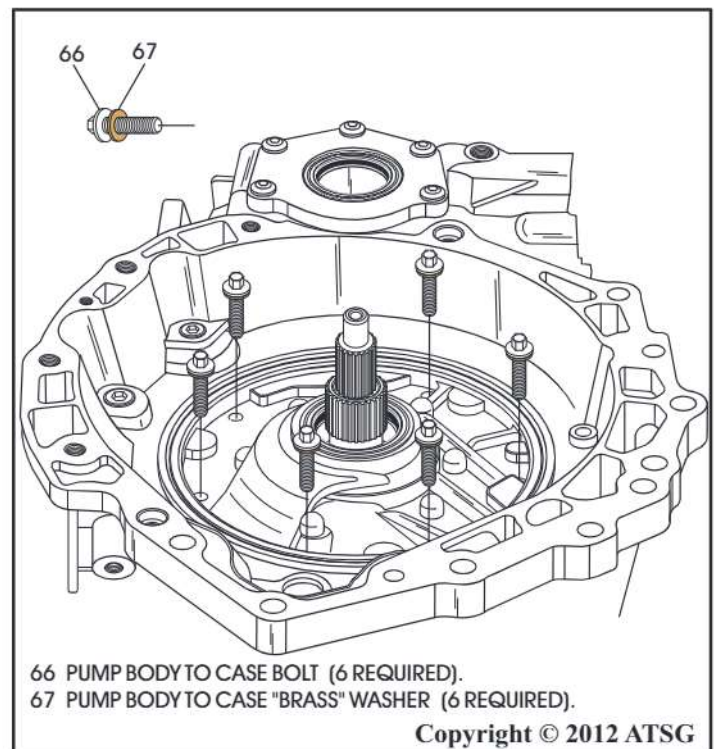

Figure 60
37. Remove the six front pump retaining bolts, as shown in Figure 60, using an 8 mm (5/16") six point socket.